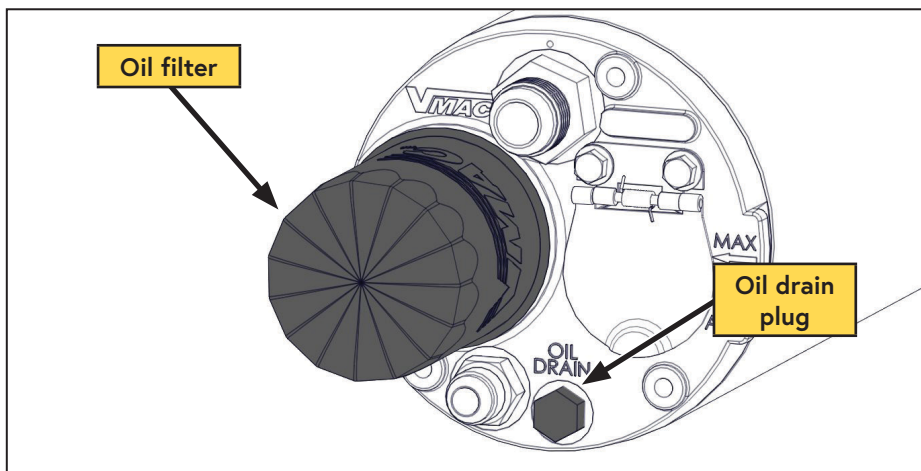

Figure 21 — Compressor oil filter
- ☐ Remove the oil drain plug and drain the oil into a container with a capacity of at least 6 L (1.6 USG) (Figure 21).
- ☐ Remove the oil filter (Figure 21).